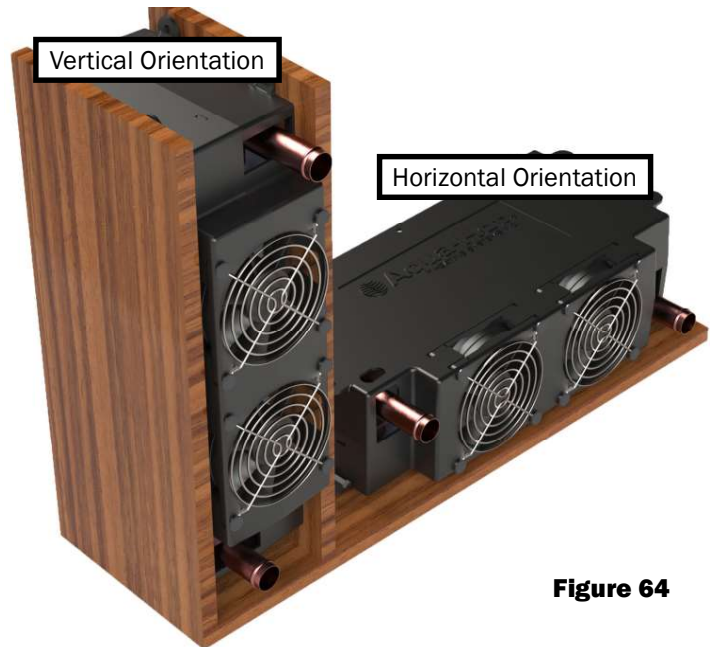

Figure 64
Cozy heat exchangers can be mounted in one of two configurations: either flat on the ground, or vertically. Reference Figure 64.
1. Cut out a 2.5" x 10" (7cm x 26cm) opening for each heat exchanger outlet and cold-air return grate as shown in Figure 64.